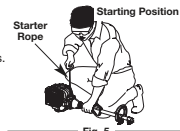

Fig. 5
- WARNING:** Avoid accidental starting. Make sure to be in the starting position when pulling the starter rope (Fig. 5). To avoid serious injury, the operator and unit must be in a stable position while starting.
5. Crouch in the starting position (Fig. 5). Squeeze the throttle control lever. Pull the starter rope 5 times.